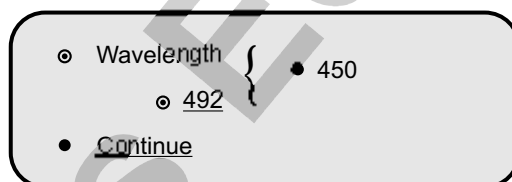

Fig. 6: Wavelength Selecting
3. At this time, the symbol of ● is in front of **Continue**. If you want to continue programming, press **Enter** key to confirm. Then the interface of selecting wavelength (Fig. 6) appears. If you want to return to the main menu, press **Reset** key.